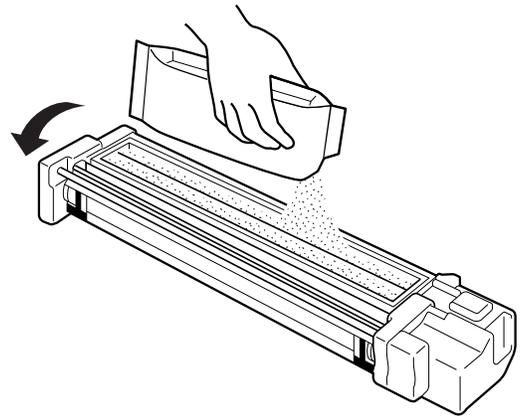

Figure 5-10
9. Evenly pour the contents of two packages of developer powder into the developer unit while rotating the developer drive gear in the direction of the arrow as shown in Figure 5-10.